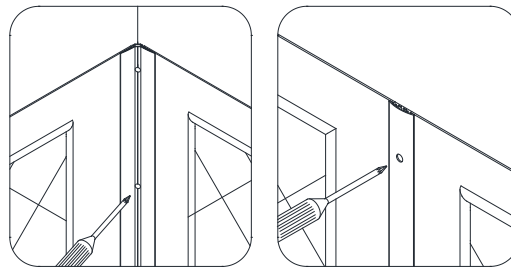

Fig 22
22. Tighten the screws for the **Corner Covers (#04)** and the **Center Cover (#05)** to secure the **Side Panels (#01)** and the **Back Panels (#02)** in place. (**Fig 22**)